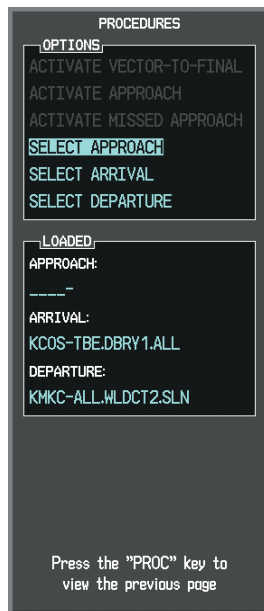

Figure 5-123 Procedures Window
b) 'SELECT APPROACH' should be highlighted as shown in Figure 5-123.